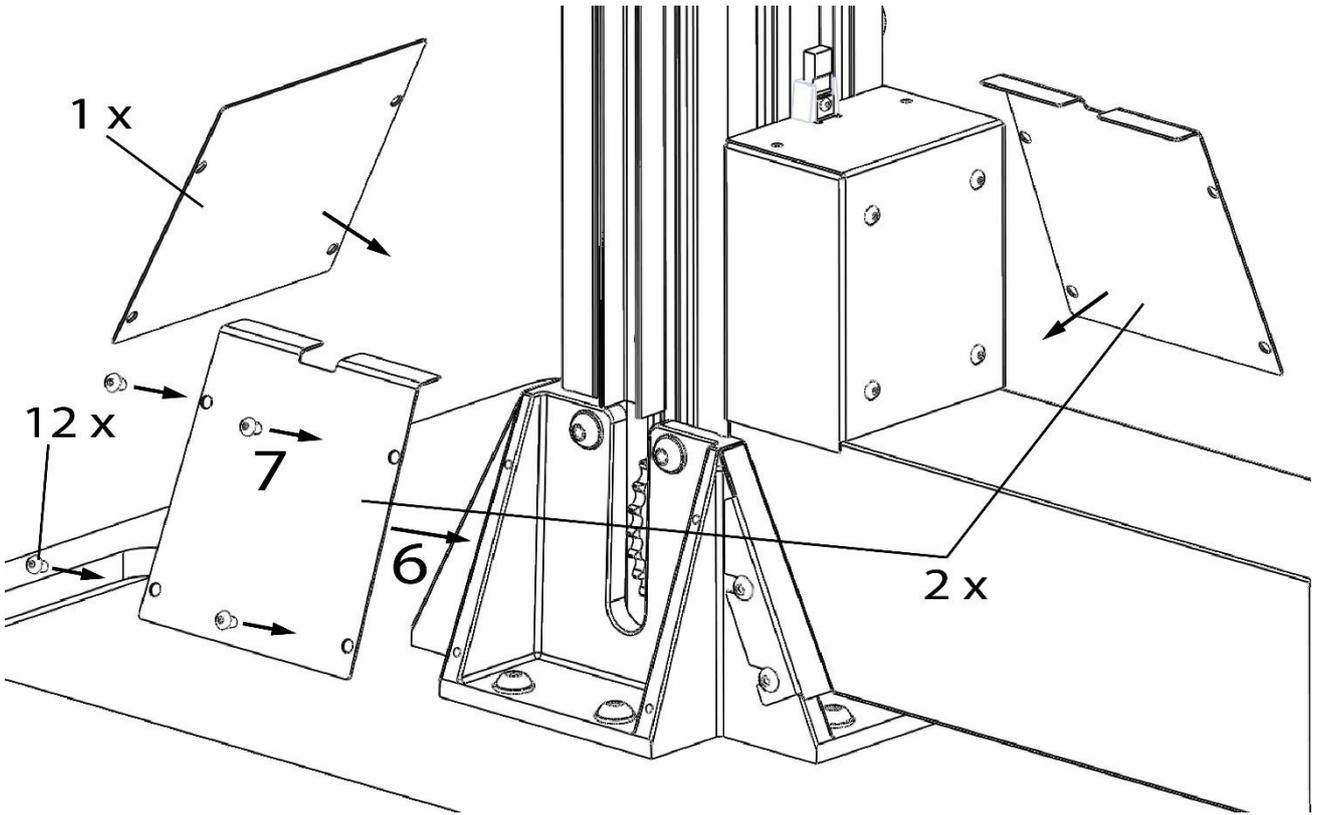

Figure 6: Top power plug and power supply bracket
10. Install the front/back and side covers with the included M4 screws (**figure 6**).